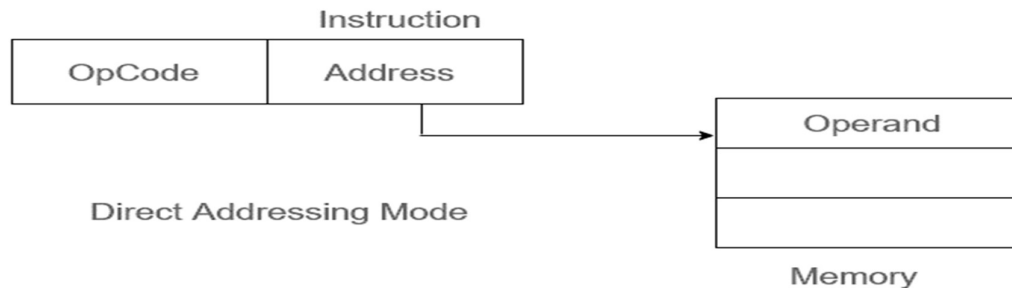

Fig.1.10: Direct Addressing Mode
LDA 2051H : it means load the content of the memory location specified by 2051H into accumulator register (A). A pictorial representation of this mode of operation is shown below in Fig.1.10.